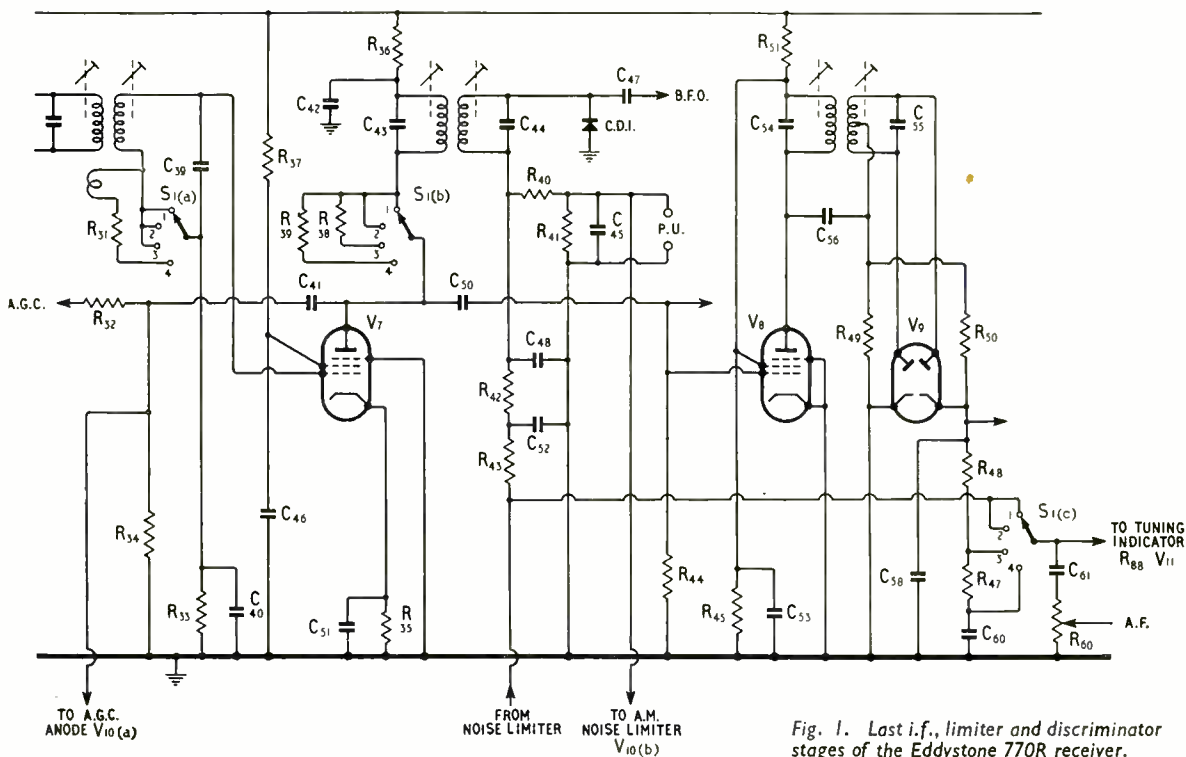

Fig. 1. Last i.f., limiter and discriminator stages of the Eddystone 770R receiver.
width for f.m. reception. For f.m. there is in addition a limiter and a Foster-Seeley discriminator. For a.m. reception there are no fewer than 10 tuned circuits and a crystal diode detector. Some interesting features (see Fig. 1) can be found in that part of the circuit, which includes the last i.f. stage V7 limiter V8 and discriminator V9. The switches  $S_{1a}$  to  $S_{1c}$  are part of a larger switching system, which might be called the "services switch," as it changes over from a.m. to f.m., adjusts bandwidth to suit each type of service and in the "CW" position switches on a BFO.  $S_{1a}$  and  $S_{1b}$  are for bandwidth adjustment of the i.f. amplifier at this point, the markings on  $S_{1a}$  indicating the four positions of the switching system; (1) CW, (2) AM, (3) NFM and (4) FM. NFM is narrow-band f.m. and is used for certain types of transmission for which the frequency deviation need not exceed  $\pm 15$  kc/s compared to the  $\pm 75$  kc/s of wide-band f.m.